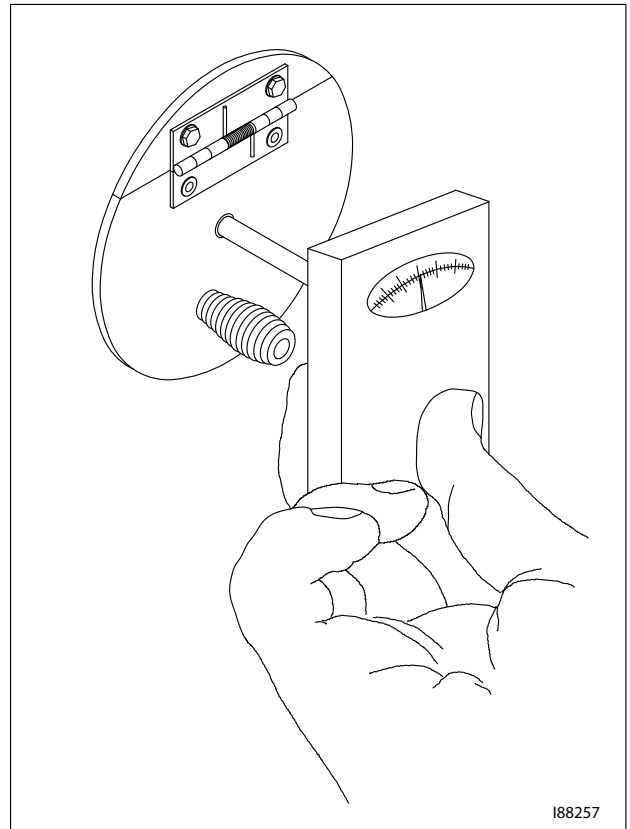

Figure 8A - Checking for Proper Draft Over Fire
1. Insert the probe of the draft gauge instrument into the draft reading port in the observation port as shown in Figure 8A.